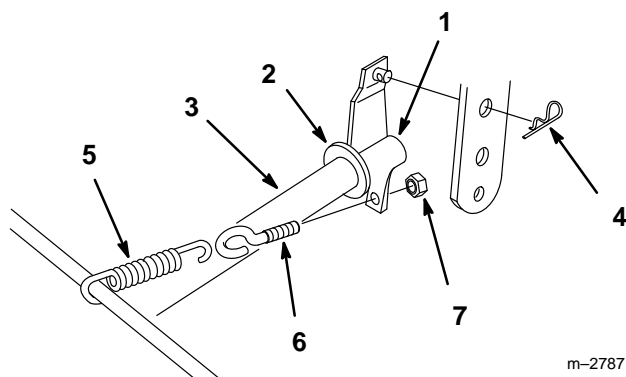

Figure 17
12. Loosen locknut on eyebolt to relax spring tension (Fig. 17). Unhook lift assist spring from frame cross rod.
13. Remove hairpin cotter to disconnect lift rod from attachment lift (Fig. 17).
14. Remove lift rod (and optional spacer washers) from lift tube (Fig. 17).